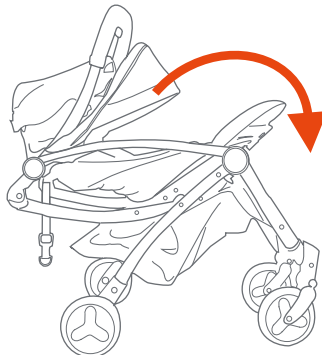
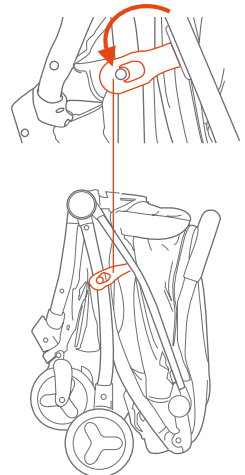

Fig. 12c
Fig. 12d
- Once the stroller begins to fold, release the handle and push forward on the handle until the stroller is folded (Fig. 12c). Lock the release lever to secure the stroller (Fig. 12d).